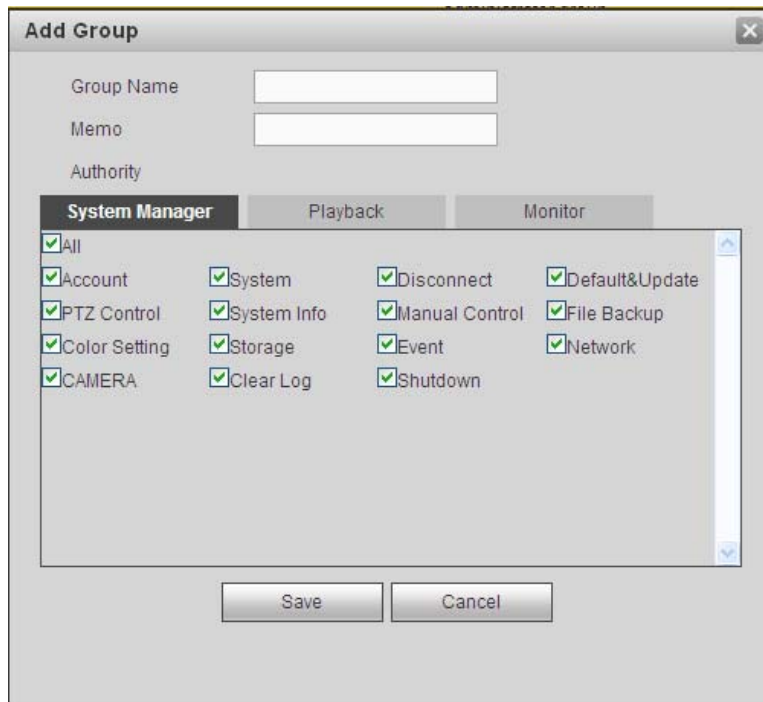

Figure 5-140
**Add group:** It is to add group and set its corresponding rights. See Figure 5-140. Please input the group name and then check the box to select the corresponding rights. It includes: shutdown/reboot device, live view, record control, PTZ control and etc.